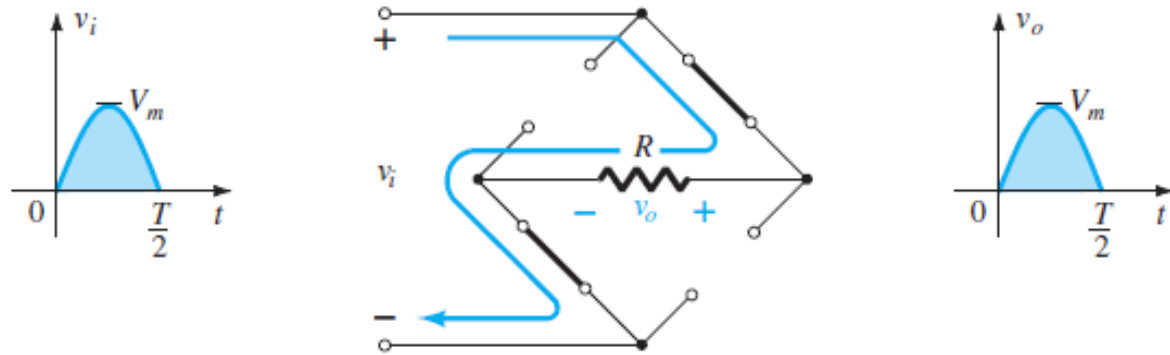

**FIG. 2.53**
*Network of Fig. 2.53 for the period  $0 \rightarrow T/2$  of the input voltage  $v_i$ .*